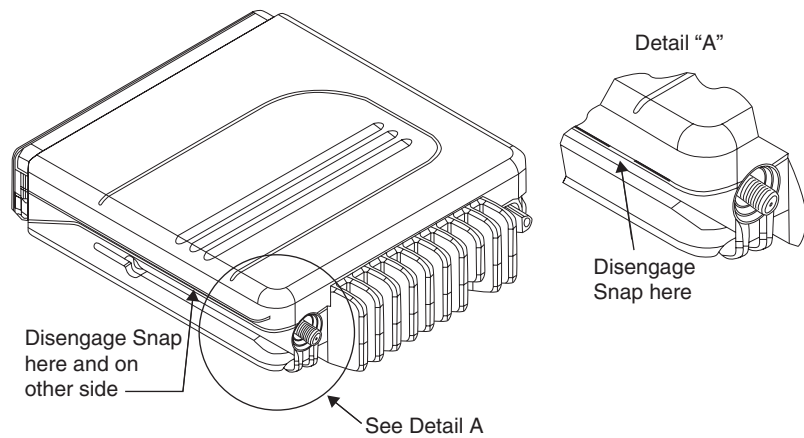

Figure 26. Removing the Top Cover
1. Insert a wide flat-blade screwdriver or like instrument in the recess area on the side of the main chassis near the RF connector end (see Figure 26).